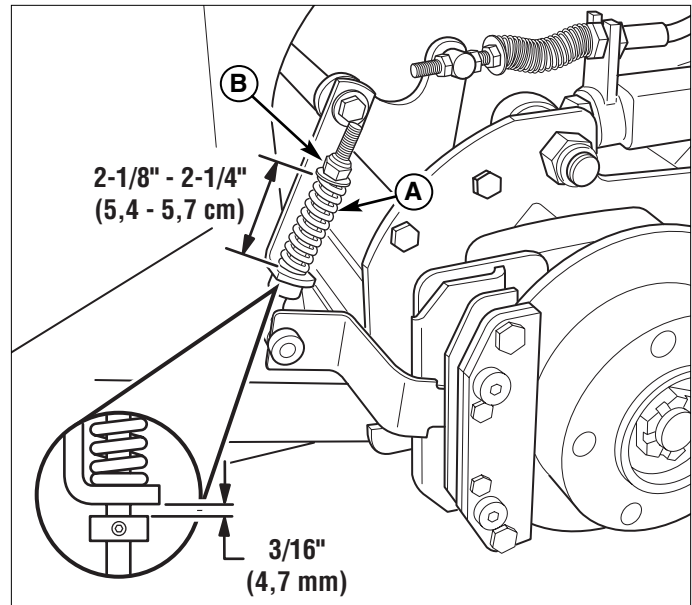

Figure 34. Parking Brake Adjustment
3. With the parking brake engaged, measure the compressed spring length (see Figure 34). The spring should be $2\text{-}1/8\text{''} - 2\text{-}1/4\text{''}$ (5,4 - 5,7 cm) long when compressed.
4. If the spring does not measure $2\text{-}1/8\text{''} - 2\text{-}1/4\text{''}$ (5,4 - 5,7 cm), release the parking brake and turn the adjustment nut (B) to adjust the spring length.